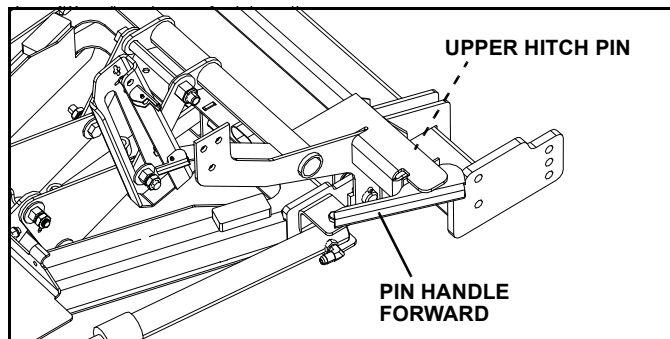

Figure 1-11
4. Rotate pin handles forward to lock upper hitch pins in place. (See Figure 1-11). Put plow in float position by turning down pressure off.